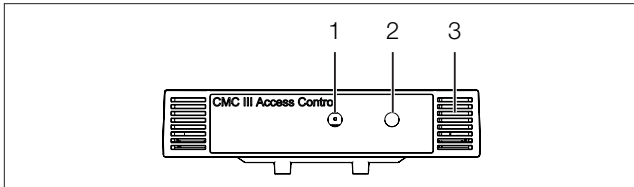
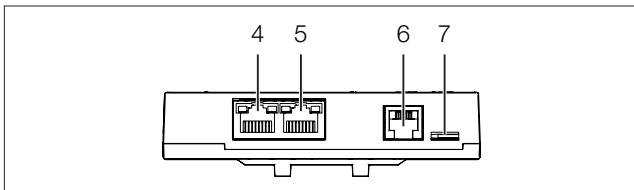

Fig. 12: Front of the Access Control
Fig. 13: Rear of the Access Control
A multi-LED for the status display is integrated into the front of the Access Control (Fig. 12, item 3). Further LEDs are located at the rear on the CAN bus connection (Fig. 13, item 4 and item 5).